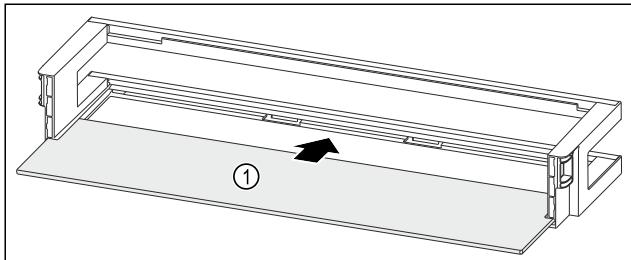

Fig. 85 Door rack with shelf
- ▶ Push the shelf Fig. 85 (1) into the side recesses.